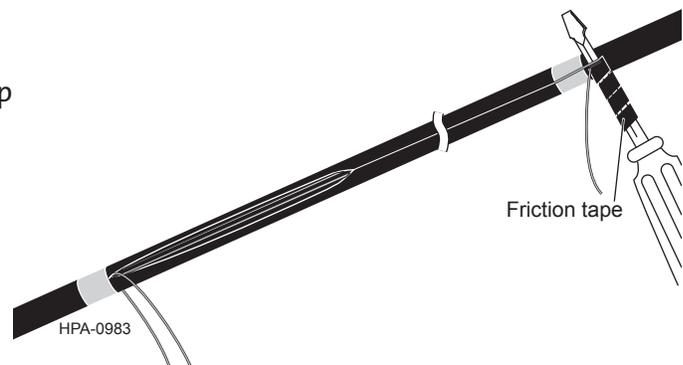

Figure 20
Step 5: Using the shaft of a screwdriver wrapped in friction tape as a handle, pull one ripcord at a time through the sheath to the opposite wrap of tape (Figure 20).